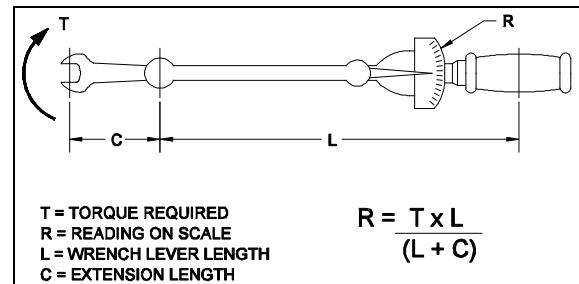

FIGURE 22 : TORQUE WRENCH FORMULA
Caution: Make sure all keyless bushings are tightened to 125 lb-ft before unlocking the pins or moving the slide-out. A lower torque value may cause the bushing to slip on the shaft, and a higher torque value may break the bushing. The torque may need to be recalculated depending of the wrench size. Refer to figure 22 for wrench size compensation.
To adjust and synchronize the rear slide-out pinions, tighten the keyless bushing to 125 lb-ft (refer to figure 22 for wrench size compensation) after having centered the pinion in its rack. Take note that when the keyless bushing nut is tightened, the pinion moves about 1/16" to 3/32" toward the slide-out center.
3. On the driver side, tighten the upper shaft keyless bushing to 125 lb-ft (refer to figure 22 for wrench size compensation). Make sure the pinion is centered and fits well in its rack to eliminate any possible backlash. Take note that when the keyless bushing nut is tightened, the pinion moves about 1/16" to 3/32" toward the slide-out center.
5. On the lower shaft, tighten the left-hand side keyless bushing to 125 lb-ft (refer to figure 22 for wrench size compensation).